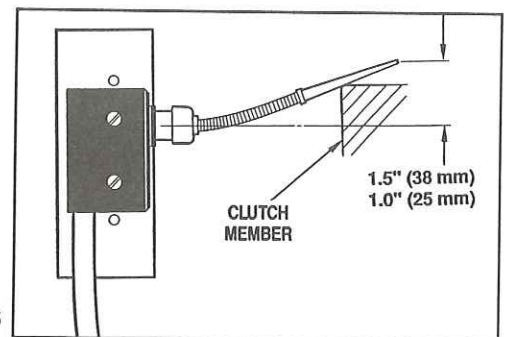

Fig. 46
3. Adjust the switch by moving the switch along the mounting bracket. The actuator arm should be deflected 1.0 - 1.5 in. (25 - 38 mm), measured at the tip of the actuator, when the clutch pedal is in the up (clutch engaged) position. See Fig. 46.